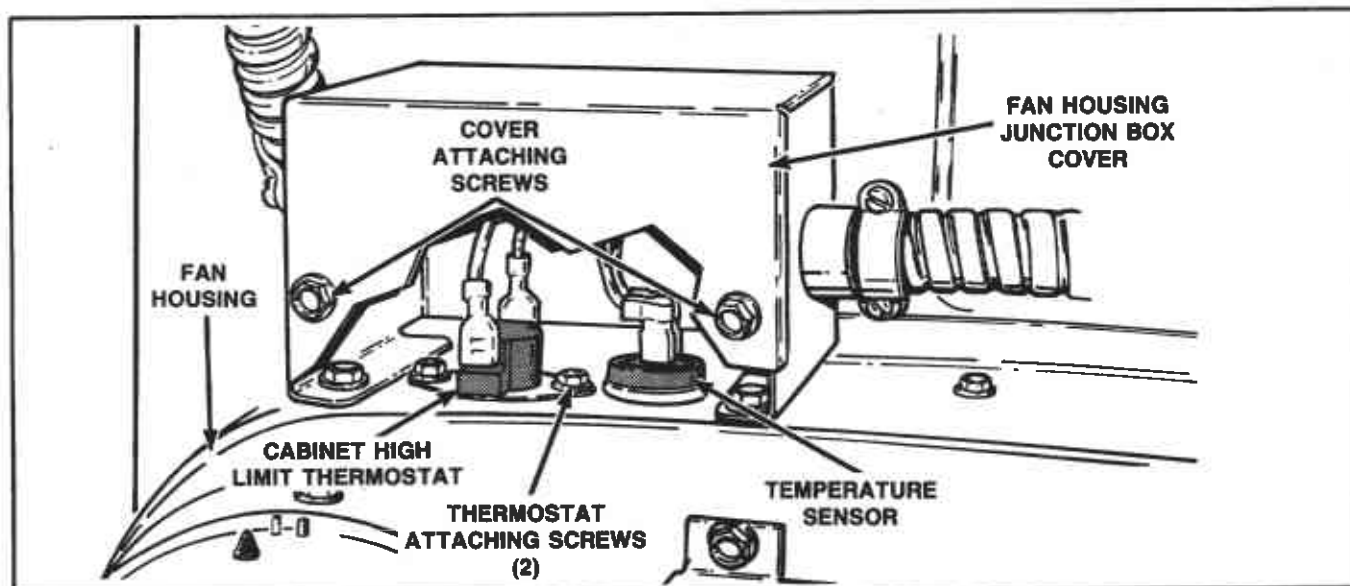

Figure 26
**27. TEMPERATURE SENSOR (Figure 26)**
**28. CABINET HIGH LIMIT THERMOSTAT (Figure 26)**